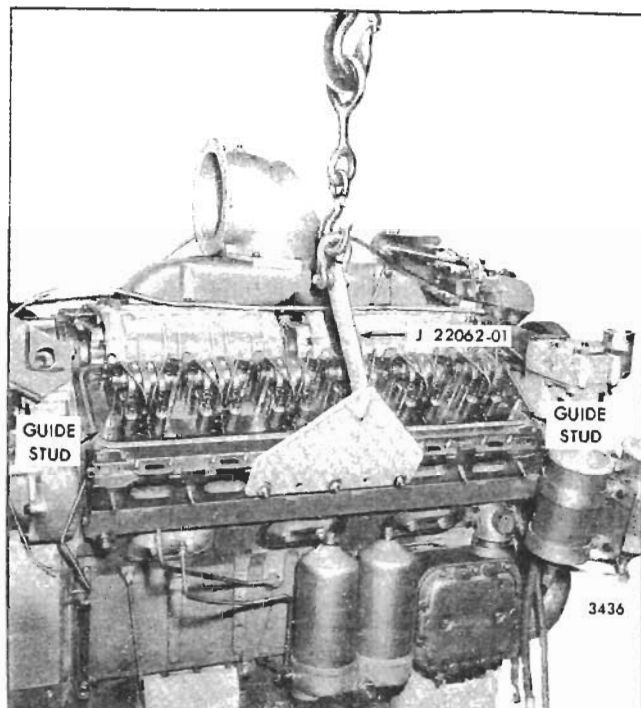

Fig. 5 - Removing or Installing Cylinder Head
14. Check the torque on the cylinder head bolts before removing the head. Then remove the bolts and washers and lift the cylinder head from the cylinder block with tool J 22062-01 (Fig. 5). If interference is encountered between the rear end of the right-bank cylinder head and any of the flywheel attaching bolts, loosen the bolts. Checking the torque before removing the head bolts and examining the condition of the compression gaskets and seals after the head is removed may reveal the causes of any cylinder head problems.